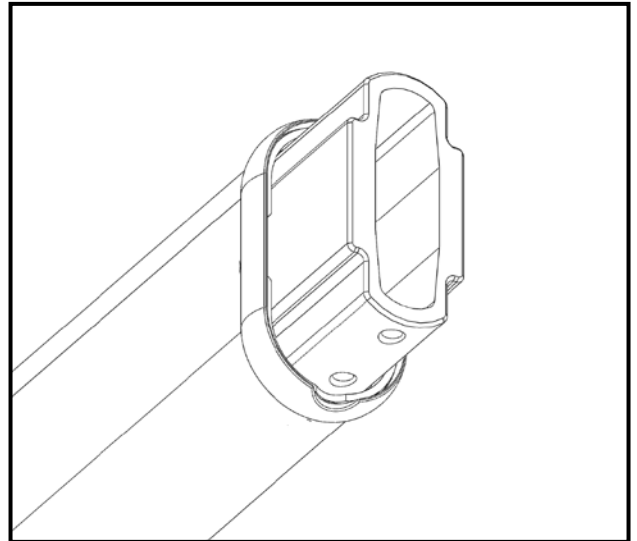

Fig. 10
10. Slide on the second set of beauty rings (Fig. 10) onto each upper handrail while making sure the radius cutouts clear the available threaded holes.